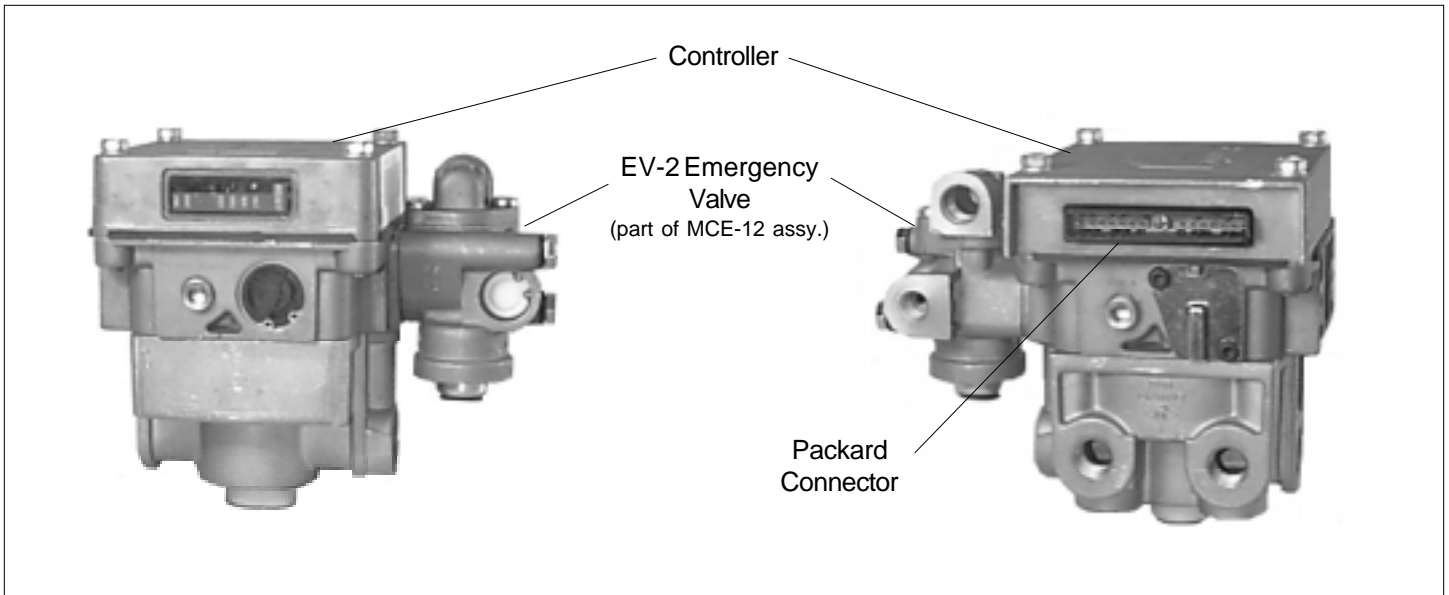

FIGURE 1 MCE-12 Modulator Controller Assembly
4. Refer to Figure 1 when installing the MCE-12 wire harness assembly. Note the position of locating lugs on the connector halves. **DO NOT FORCE THE CONNECTOR HALVES TOGETHER.** Tighten the "jack" screw to 8-10 inch pounds.